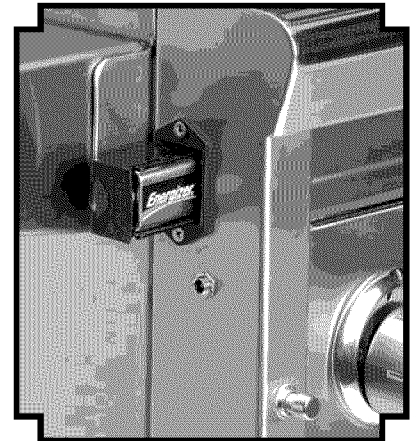

Figure 7-2 - Locating battery compartment on left side of grill.
- 1) Locate the battery compartment on the left side of the control panel (see figure 7-2).